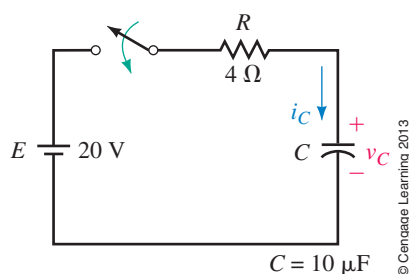

FIGURE 11–50
An electronic device employs a timer circuit of the kind shown in Figure 11–32(a), that is, an RC charging circuit and a threshold detector. [Its timing waveforms are thus identical to those of Figure 11–32(b).] The input to the RC circuit is a 0 V to 5 V $\pm 4\%$ step, $R = 680 \text{ k}\Omega \pm 10\%$, $C = 0.22 \mu\text{F} \pm 10\%$, the threshold detector activates at $v_C = 1.8 \text{ V} \pm 0.05 \text{ V}$, and the required delay is 67 ms ± 18 ms. You test a number of units as they come off the production line and find that some do not meet the timing spec. Perform a design review and determine the cause. Redesign the timing portion of the circuit in the most economical way possible.
- The capacitor of Figure 11–50 is uncharged.